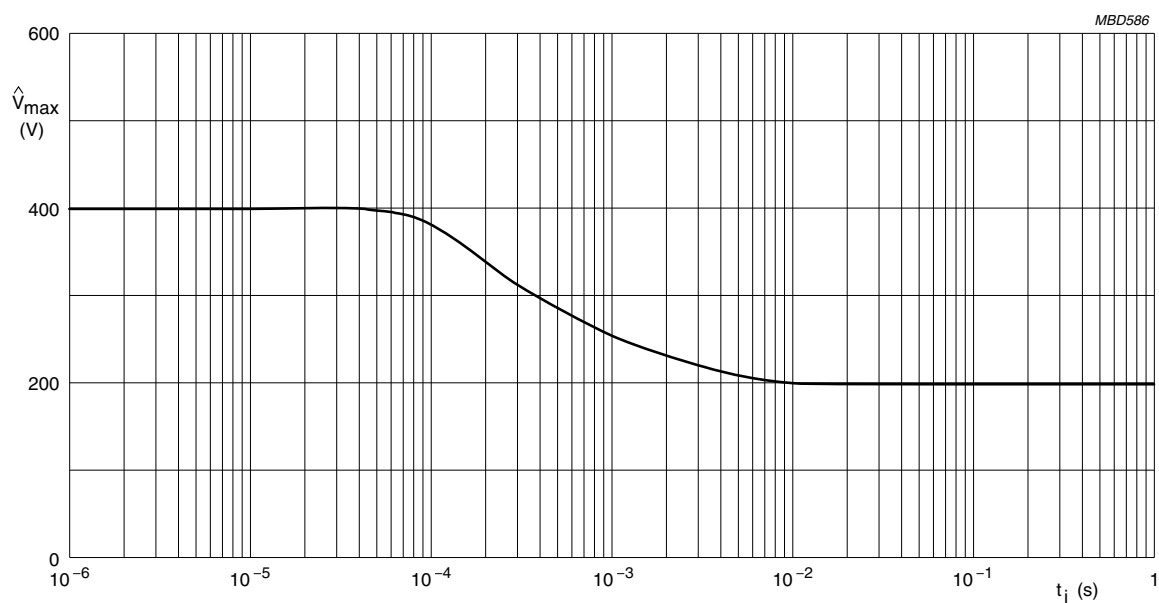

Fig. 13 Pulse on a regular basis; maximum permissible peak pulse voltage ($\hat{V}_{max}$) as a function of pulse duration (t_i).
However, maximum peak pulse voltages as indicated in Fig. 13, should not be exceeded.
- $\hat{V}_i$ must be lower than the value of $\hat{V}_{max}$ given in Fig. 13 for the applicable value of t_i .
$$\hat{P}_{\max} = 2 \text{ W and Fig. 13 gives } \hat{V}_{\max} = 400 \text{ V}$$
The dashed curve of Fig. 12 shows that at $t_i = 10^{-5} \text{ s}$, the permissible $\hat{P}_{\max} = 10 \text{ W}$ and Fig. 13 shows a permissible $\hat{V}_{\max}$ of 400 V, so this resistor may be used.